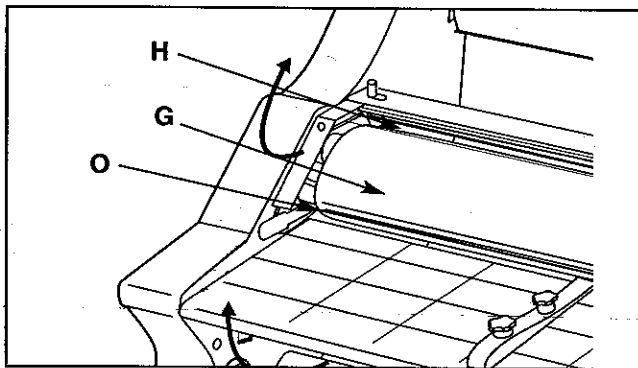

Figure 3A
G. HEAT SHOES: Teflon coated heat shoes melt the adhesive on the laminating film before it is compressed by the nip rollers. (Figure 3A).